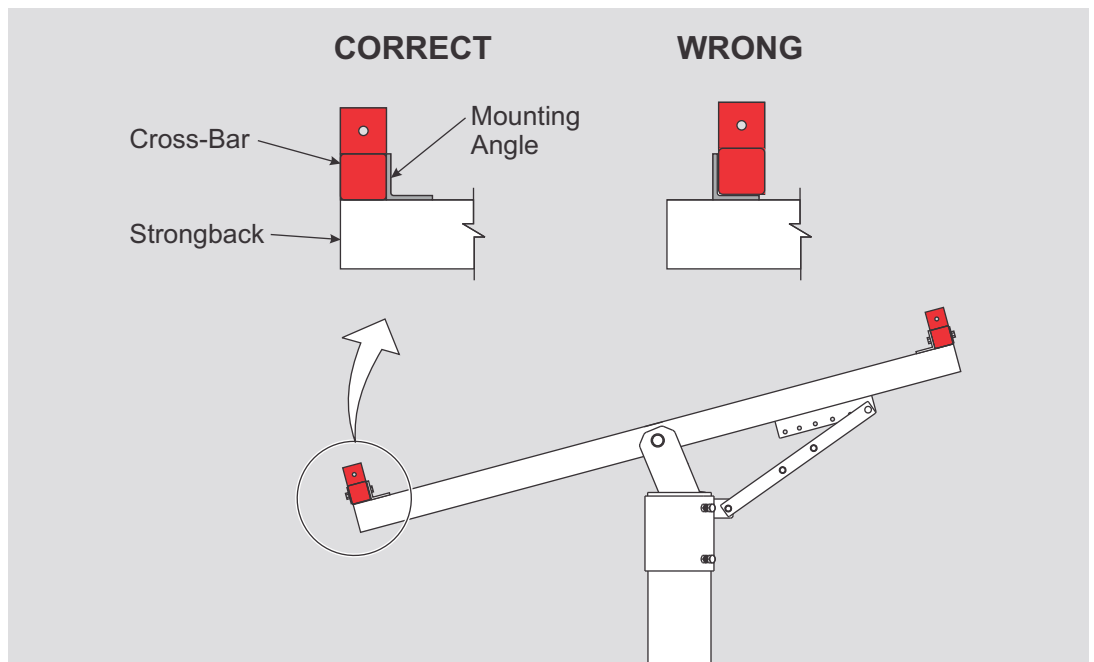
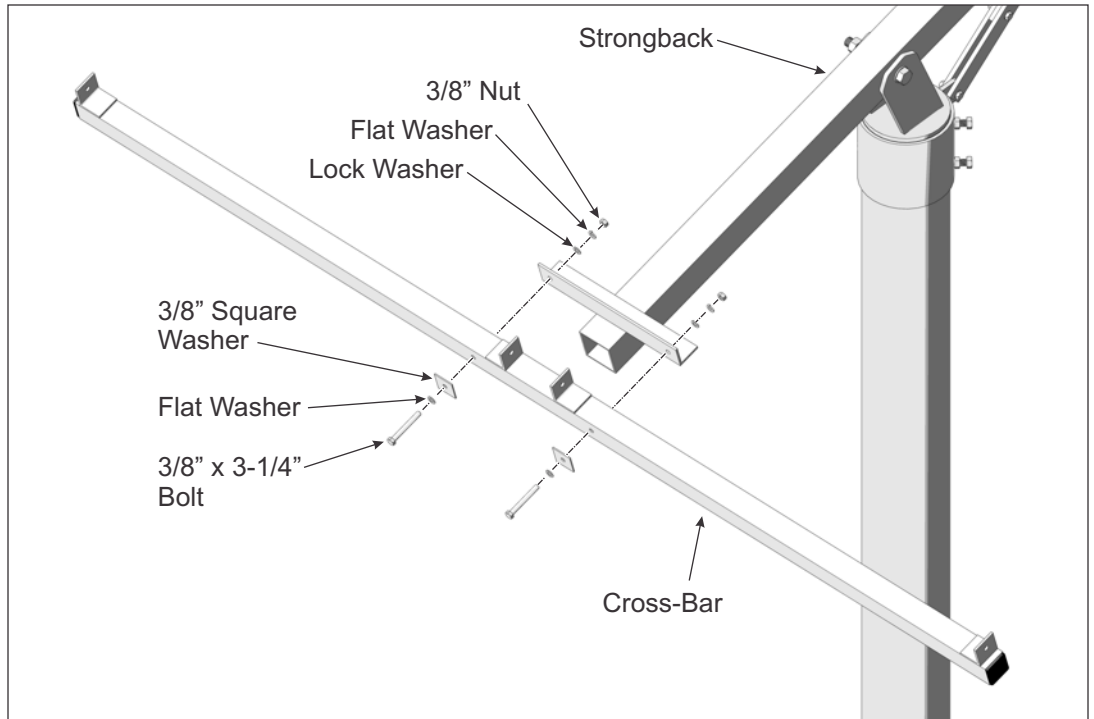

Figure 3-1: Cross-Bar Positioning relative to Mounting Angles
Figure 3-2: Installing Cross-Bars on the Strongback
Cross-Bars are mounted to the outside of the Strongback mounting angles (these are welded to the Strongback); they are not nested into the Mounting Angles. (See Figure 3-1)
- A. Position the Cross-Bar to the outside of the Strongback mounting angle (See Figure 3-1). Align the mounting holes and secure using 3/8" flat and square washers along with the 3/8" x 3-1/4" bolts and lock washer placing the square flat washer against the Cross-Bar. Tighten hardware and **Torque to 30-32 ft.-lbs.** (See Figure 3-2)
- B. Continue in this manner and install the opposite Cross-Bar to the Strongback. Refer to Figure 3-1 as needed for proper positioning.